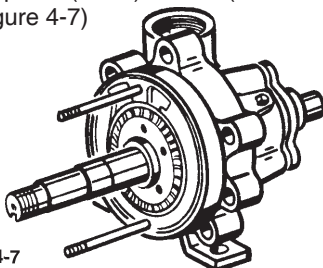

Figure 4-7
- Next put a key (#23) into the keyway in the shaft and slide an impeller (#11B) over it. (refer to figure 4-7)